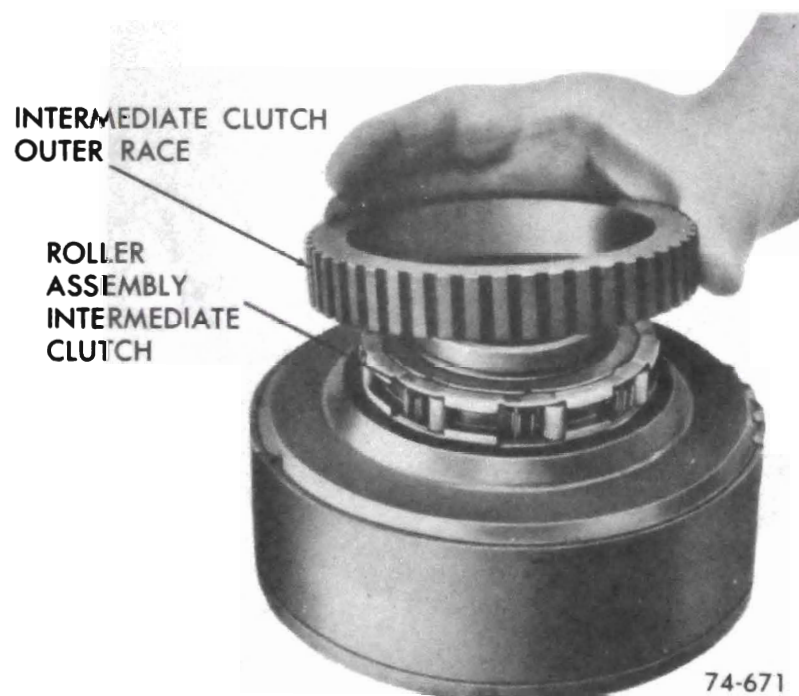

Figure 76-196
2. Remove roller clutch outer race and roller assembly. See Figure 76-196 and 76-196A.